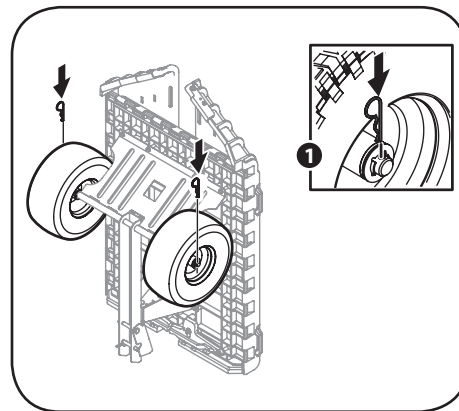

Figure 3-4
5. Install the cotter Pins from the hardware pack through the holes in the axles to secure the tires in place. See Figure 3-4.